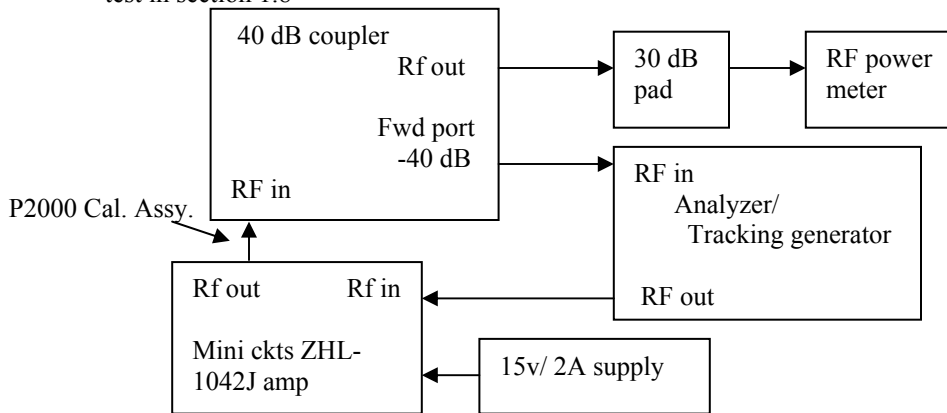

Figure 1.2 System zero loss calibration connection
| Figure 1.2 System zero loss calibration connection.....                                   | 4        |
- 1.2 **Cable calibration alignment.** Connect the spectrum analyzer RF out to the Mini circuit amplifiers input, connect the amps output to the couplers RF input using the P2000 calibration cable Assy. Connect the couplers forward port to the analyzers RF input and the RF output to the 30 dB attenuator/pad as shown in figure 1.2 below. Set the tracking generator for -5 dBm output power for both the VHF or the UHF boards. Adjust the span to track from 130 to 2000 MHz, set the analyzer as follows resolution bandwidth for 10 kHz, the attenuation to 0 dB, the reference level to 0 dBm and perform a through loss zero cal of this setup by following the proper procedure in the spectrum analyzers manual. **Note:** There is no 800 Board sweep test required, only a CW test in section 1.8